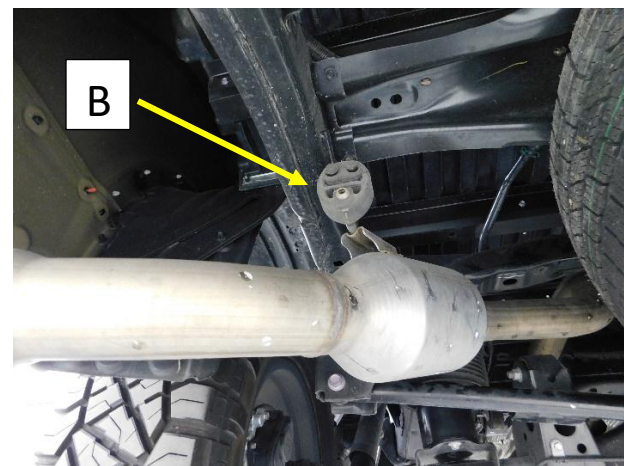

Figure 2
3. Spray the exhaust isolator at the tailpipe hanger with spray lube. Remove the Rubber Isolator (B). **Fig.2**